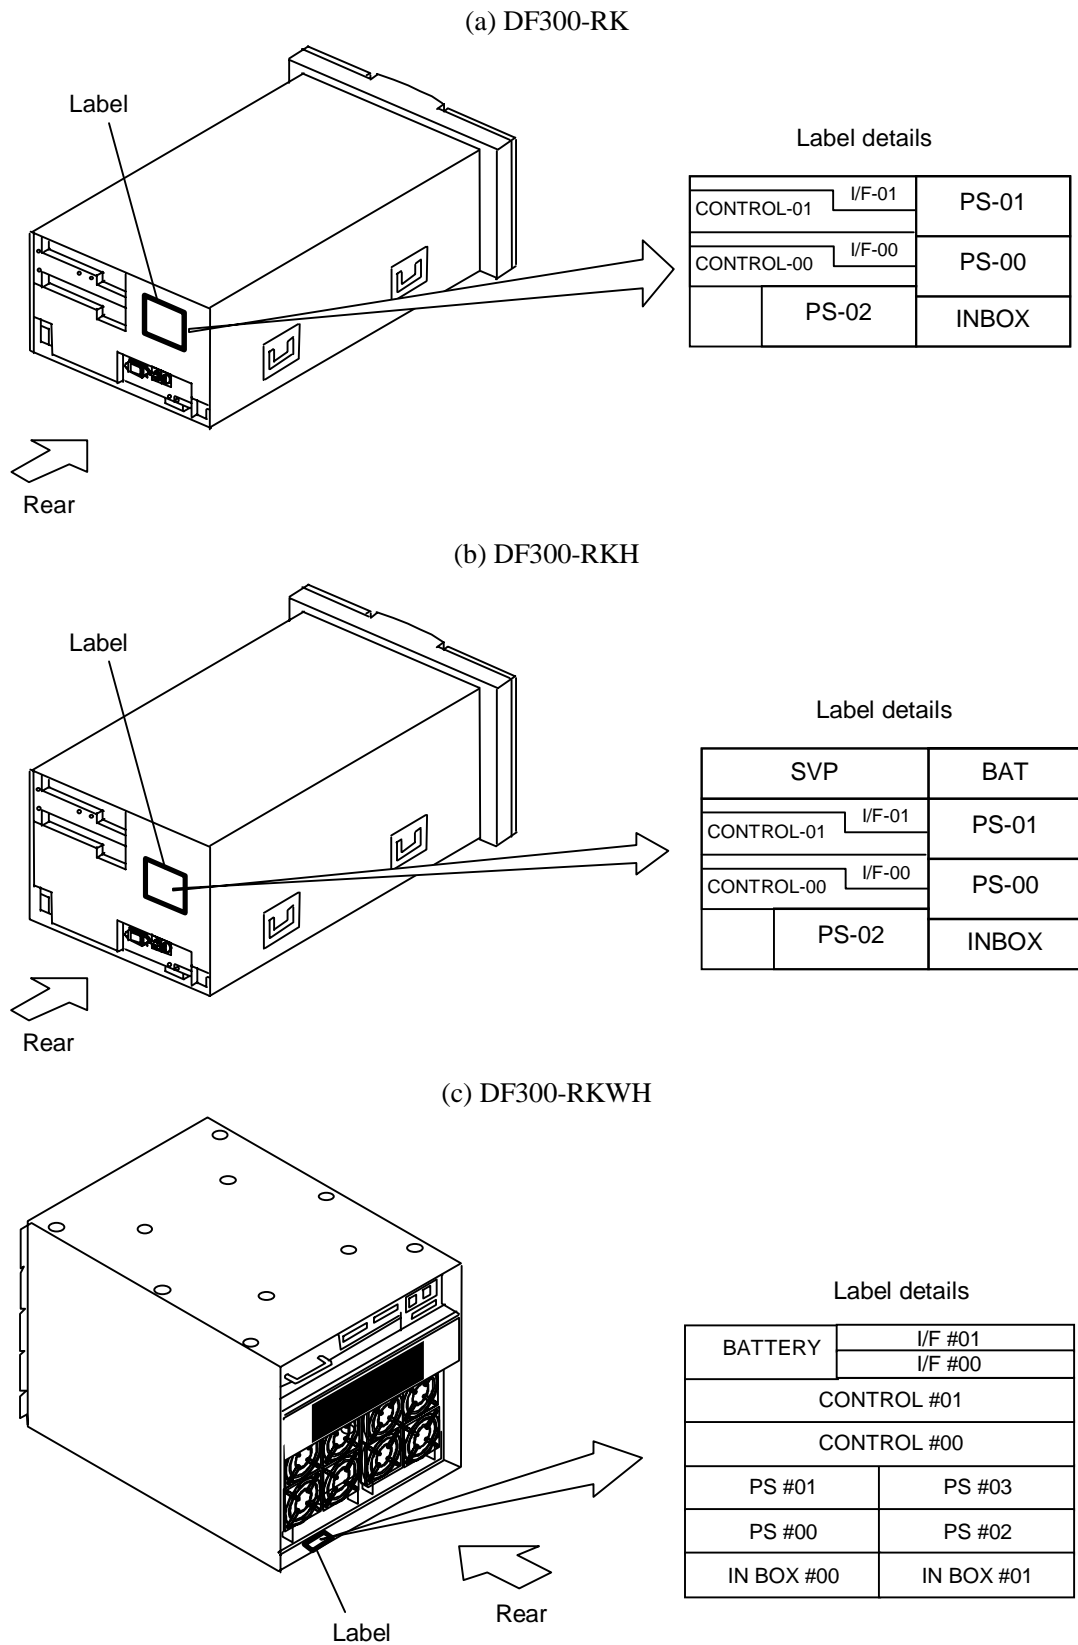

Figure 4.12.2 Label Layout
**Note 1 :** When the controller is used in a dual configuration, connect the cables to the connectors corresponding to the host to be connected. (See Figure 4.12.2.)